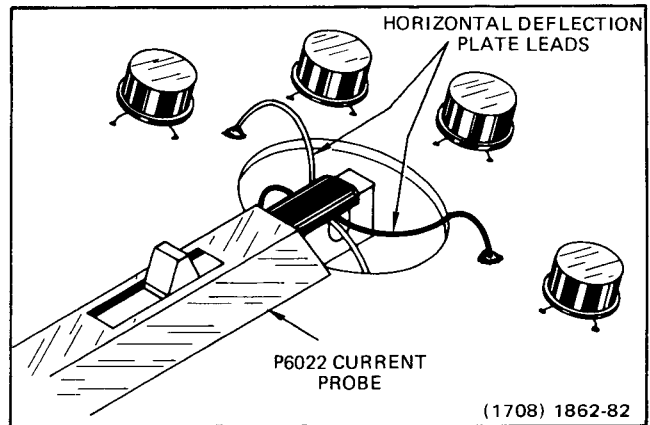

Fig. 6-4. Proper connection of current probe to horizontal deflection plate leads for High-Speed Timing calibration.
d. Connect the probe head around the crossed horizontal deflection plate leads. See ADJUSTMENT LOCATIONS 4-B. See Figure 6-4 for proper probe connection.